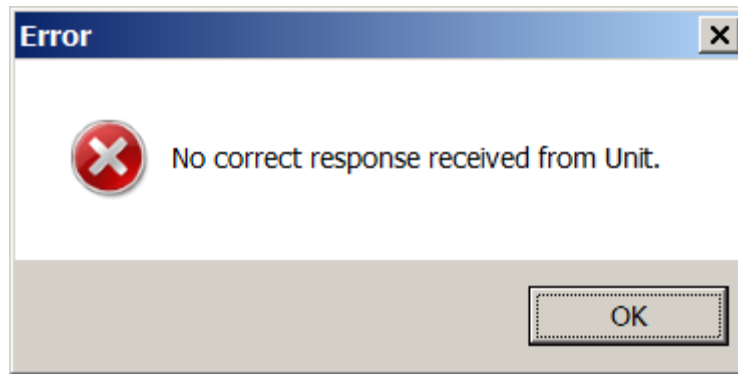

Figure 30 - Communications error window
**Note:** Commands sent to the KMS-820 either USB or wirelessly are acknowledged by the KMS-820. If the KMS-820 did not receive a command the Communications error window, Figure 30, will open. If a communication error is received the user must send the last command again to the KMS-820. No indication is made to the user if a command to the KMS-820 is acknowledged.